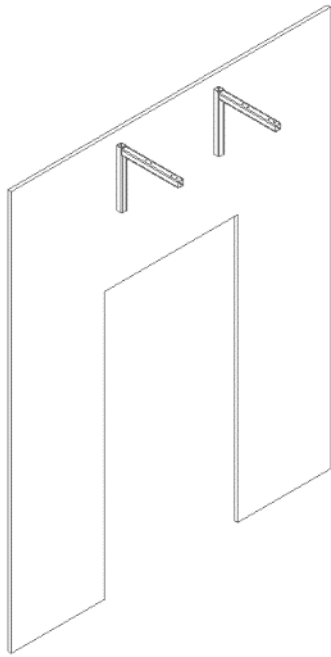

Figure 3a
- Step 1** Drill and bolt all wall brackets to the wall as shown in Fig 3a, using suitable fixings referring to Appendix 1 for correct position.